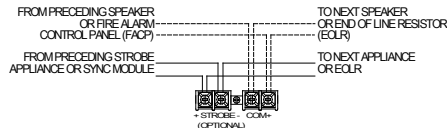

Figure 2
For wiring information, refer to Figures 2 and 3 below:
- Break all in-out wire runs on supervised circuits to ensure integrity of circuit supervision as shown in Figure 2. The polarity shown in the wiring diagrams is for operation of the appliances.